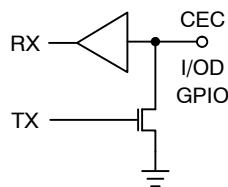

Figure 3. Typical µC I/OD Driver
The Consumer Electronics Control (CEC) line is a high level command and control protocol, based on a single wire multidrop open drain communication bus running at approximately 1 kHz (See Figure 3). While the HDMI link provides only a single point-to-point connection, up to ten (10) CEC devices may reside on the bus, and they may be daisy chained out through other physical connectors including other HDMI ports or other dedicated CEC links. The high level protocol of CEC can be implemented in a simple microcontroller or other interface with any I/OD (input/open-drain) GPIO.